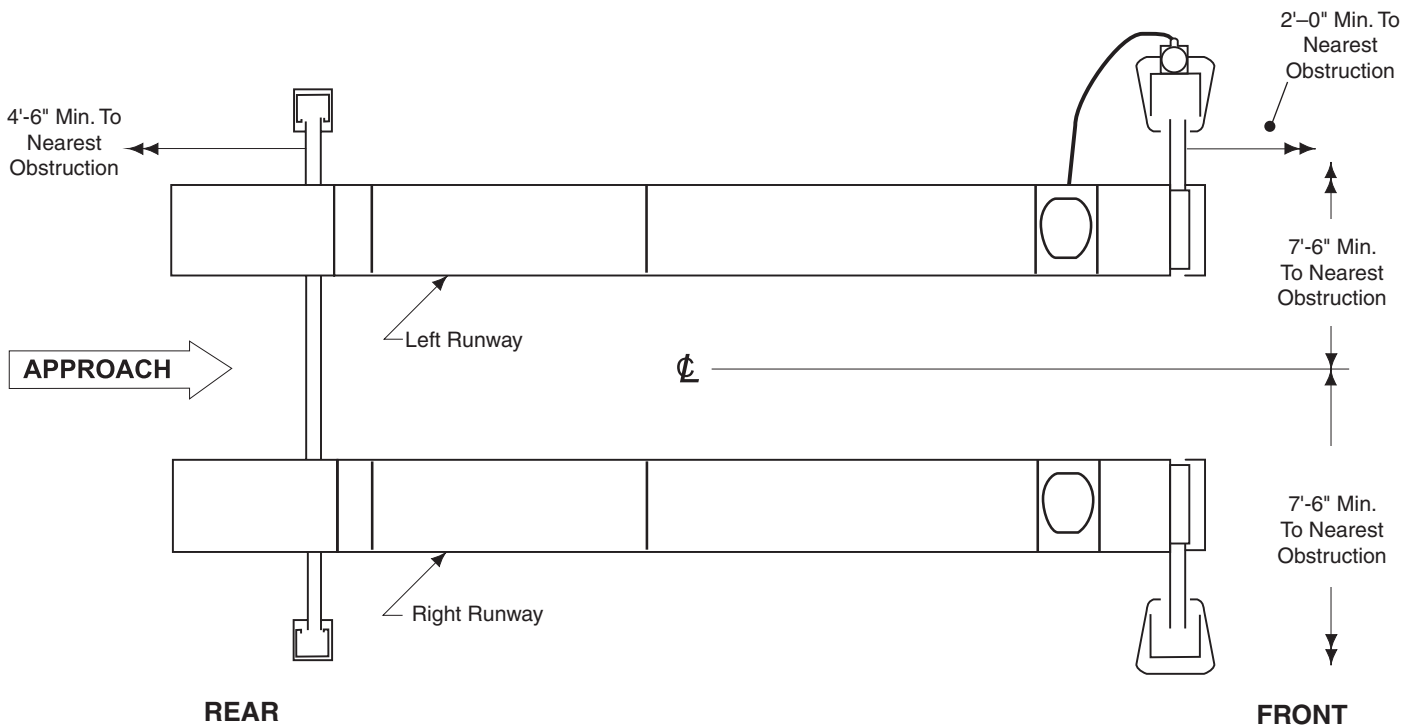

Fig. 1
1. **Lift Location:** Use architects plan when available to locate lift. Fig. 1 shows dimensions of a typical bay layout. Lift floor area should be level.